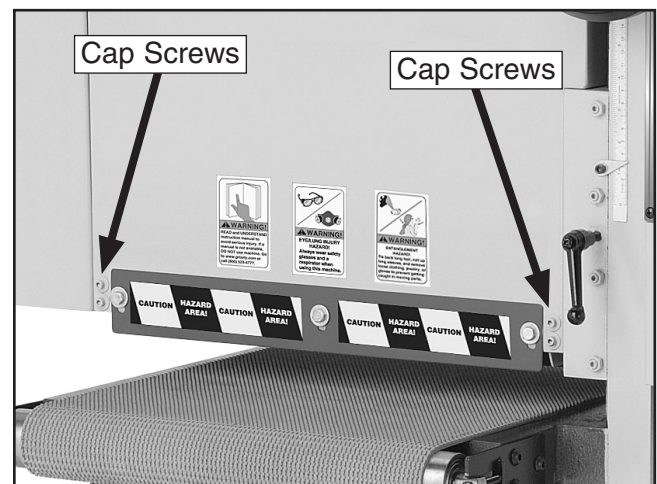

Figure 39. Pressure roller cap screws (front pressure roller cap screws shown)
5. Loosen the eight cap screws securing the front and rear pressure rollers to the sanding cabinet (see **Figure 39**).